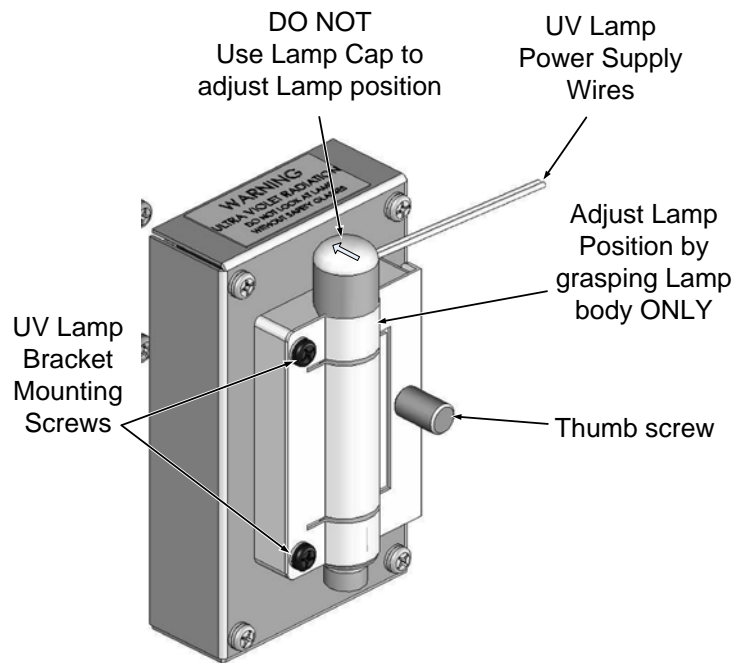

Figure 8-1: UV Lamp Adjustment
2. Slightly loosen the large brass thumbscrew located on the shutter housing (see Figure 8-1) so that the lamp can be moved.
DO NOT grasp the UV lamp by its cap when changing its position - always grasp the main body of the lamp (refer to Figure 8-1). Inattention to this detail could twist and potentially disconnect the lamp’s power supply wires.